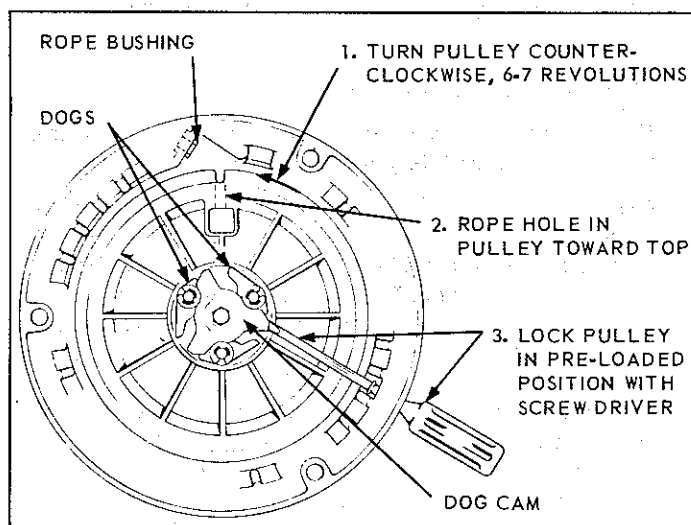
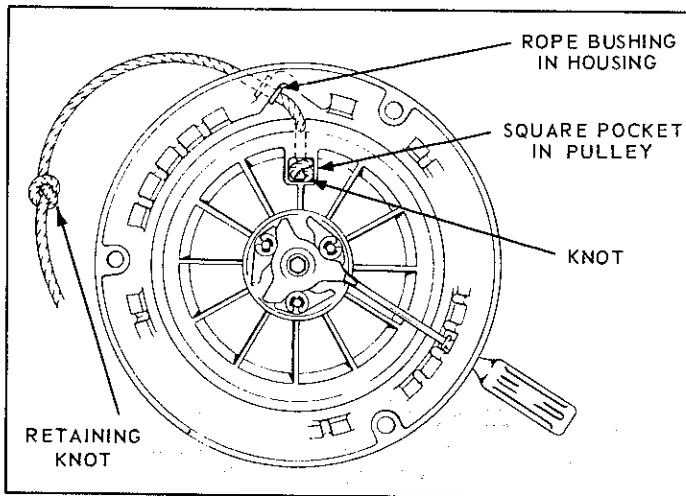

FIG. 4
FIG. 5
Assuming the rope has broken, remove what ever remains of the rope from the starter. Tie knot at end of new rope. Turn the *pulley* in starter *counter clockwise* until it stops (about 6-7 turns). Allow the pulley to rotate slightly in the opposite direction (clockwise) until the hole in the pulley is in line with the rope bushing in the housing. Lock sheave in this position by placing a screw driver between two of the housing support ribs and wedging the end of the screw driver under the dog cam and against the dog, see Fig. 4. Thread rope through hole in pulley and through *rope bushing* in housing. Pull rope completely through until the knot in end of rope (previously tied) can be tucked into the *square pocket* in the pulley, see Fig. 5. Allow the rope to recoil into the pulley about 2 feet, then tie a *retaining knot* in the rope to prevent it from being completely rewound into the pulley. Install the 'T' handle (128) on the rope, then the handle insert (129). Tie a knot at end of rope and tuck it into the handle insert, then assemble insert into the rubber 'T' handle. Remove the retaining knot and allow the rope to recoil completely.